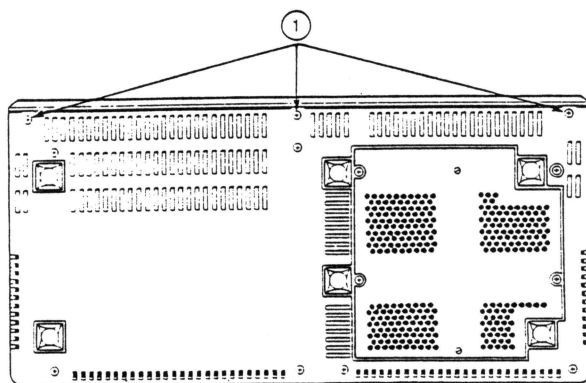

FIGURE 12
5. Turn the ProFile over and replace the three screws on the front edge (Figure 12).